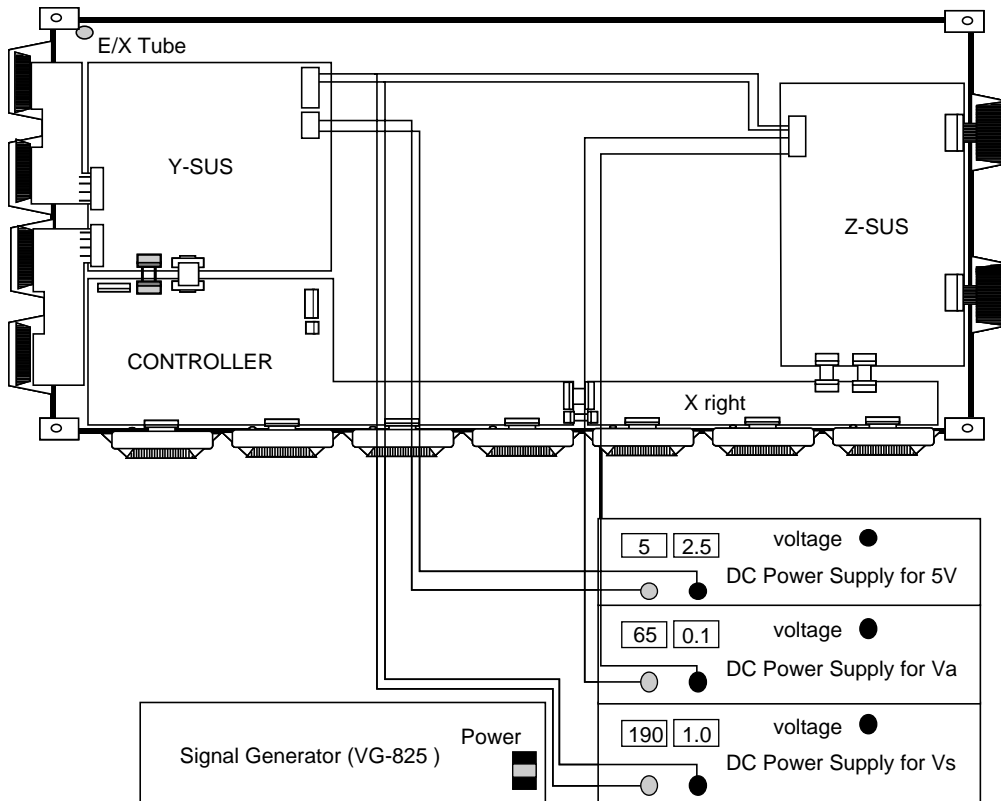

Fig. 1 Connection diagram of measuring instrument
Refer to Fig. 1.(Connection diagram of measuring instrument that adjusting the voltage wave form)
- (1) Adjusting the Voltage Wave form of Vsetup
- Connect measuring instrument like the connection diagram Fig. 1.
- Turn on the power of the measuring instrument like the <Caution> item Fig. 1.
Refer to figure 1. (Connection diagram of measuring instrument that adjusting the voltage wave form)